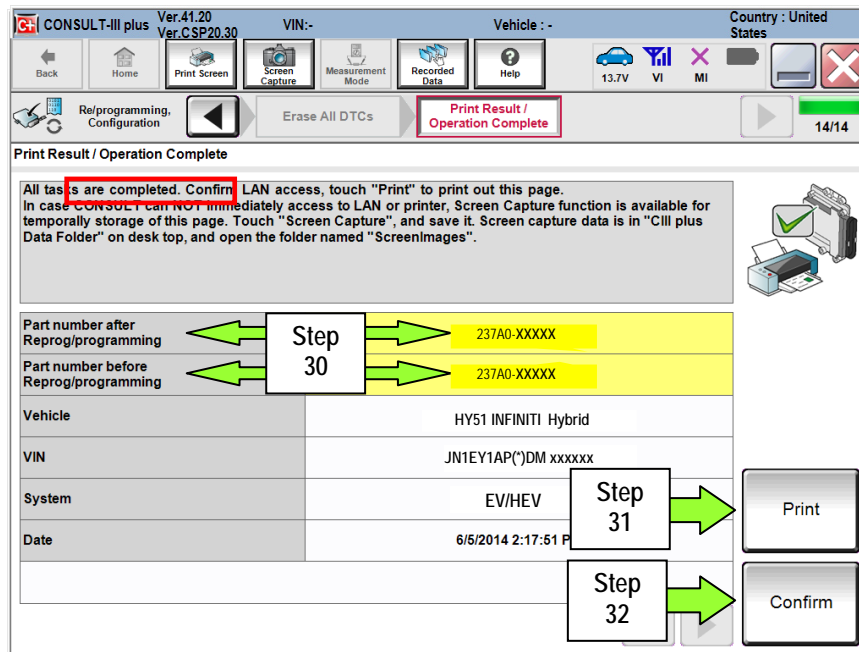

Figure 21
31. Print a copy of this screen (Figure 21) and attach it to the repair order.